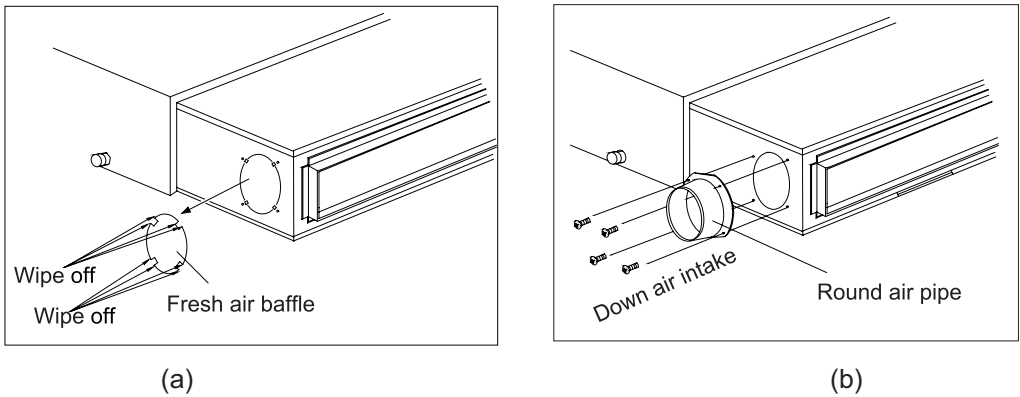

Figure 1-1-13
- Cut off the fresh air baffle when connecting the fresh air duct, as shown in Fig. 1-1-13(a). If not using the fresh air duct, please use sponge to seal the fresh air baffle clearance.